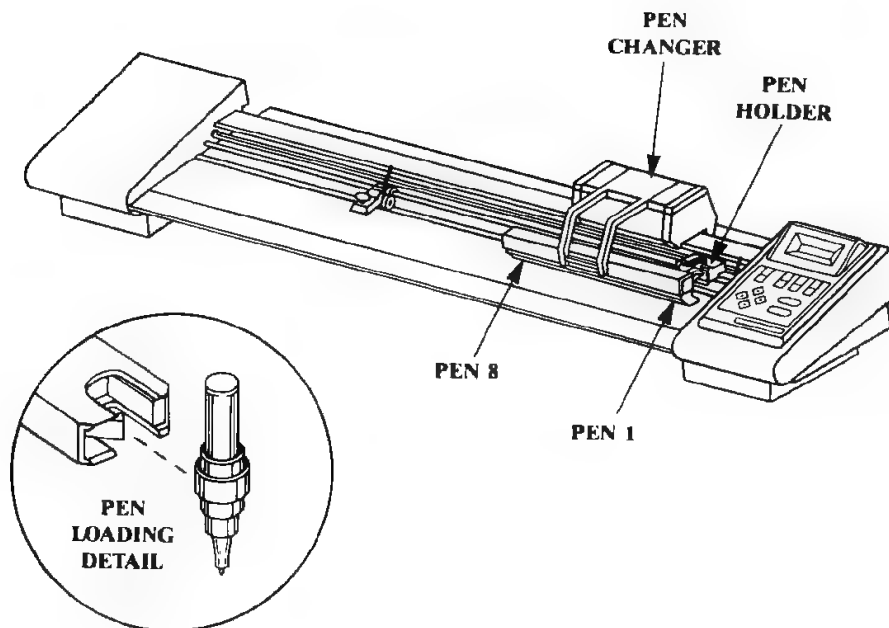

FIGURE 4-5. PEN INSTALLATION
3. A pen is installed by pressing the wide part into the jaws of the changer pen stall. See Figure 4-5. Install pens in stalls 1 through 8 of the pen changer, and leave the plotter pen holder empty. The pen changer arm must be down and latched for proper multi-pen operation. Place pens in the stalls by pen tip width and/or ink color according to your plotting software